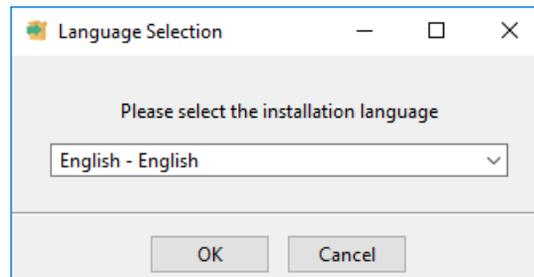

Figure 15. Language Selection
2. Follow the prompts to select another language from the default of English (see Figure 15).